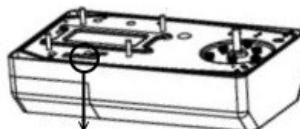

Fig 17
1. The O/S/C interfaces available. (Fig. 17, Fig. 18) Add a new O/S/C button to open or close the door.
2. Flash light function. (Fig. 17, Fig. 18)
3. Service door protection (Fig. 17, Fig. 18)